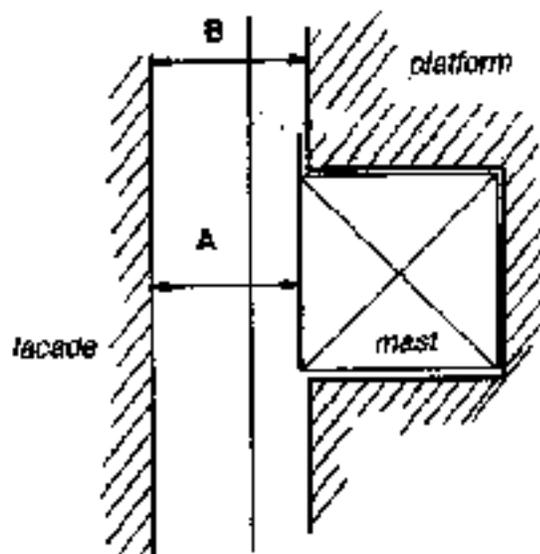

Fig. 3-37 Distance to the facade
- the front of the mast; it does not run parallel to the front of the platform (fig. 3-37);